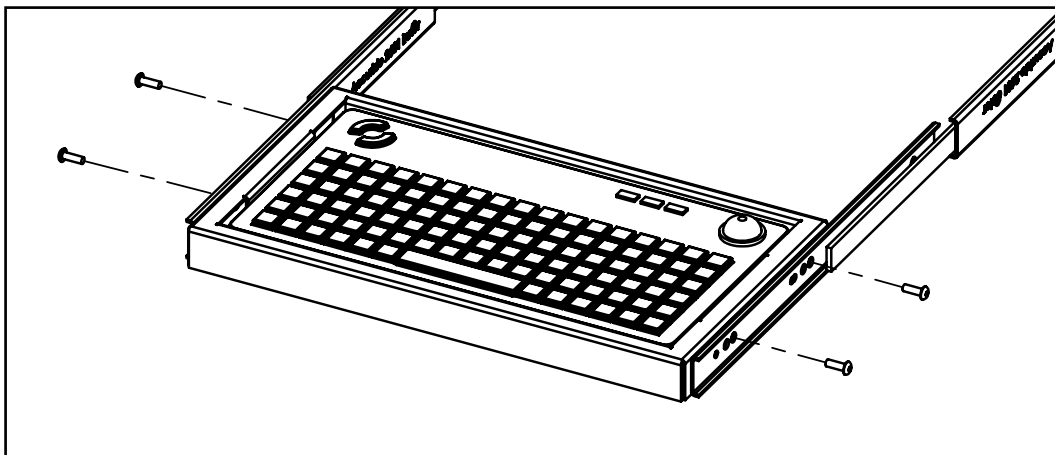

Figure 10-B. The remaining 4 #8-32 button head screws are used to attach the keyboard tray to the slides.
- Use the #8-32 button head screws to attach the 12" slides to the inner side of the keyboard brackets. The manufacturer stamped identification on the slides should be placed toward the rack. You need to adjust the position of the slides to access the hole locations. Hole locations are shown in **Figure 10-A**.
Figure 10-A. There are floating, self-locking fasteners in the keyboard mounting brackets which prevent the screws from backing out. You will notice the snug fit when tightening the screws.
- Fully extend the 12" slides and mount the keyboard tray, refer to **Figure 10-B**. The different hole patterns allow for variations in the overall extension of the keyboard tray.